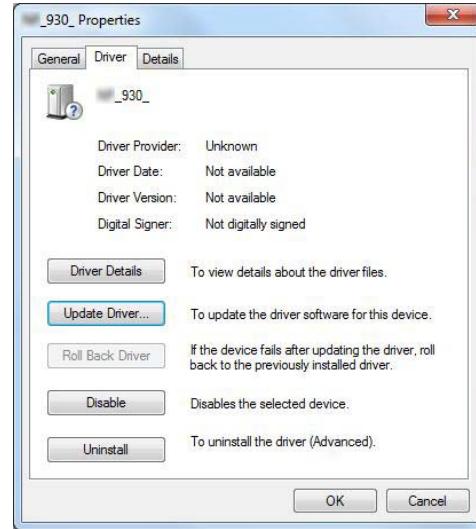

Figure 36: Update the printer driver
- Switch to the tab "Driver" and select the button "Update driver" (see Figure 36). The "Update Driver Software" Wizard will appear.